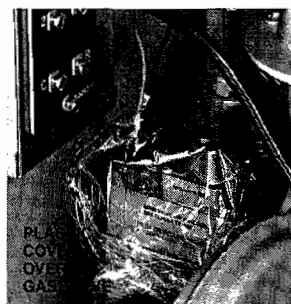

FIGURE 36
5. Disconnect the electrical wire plug from the ignition module and tape the end of this plug. Cover the gas valve with plastic sheeting to prevent any glycol solution from spilling onto it. See Figure 36.